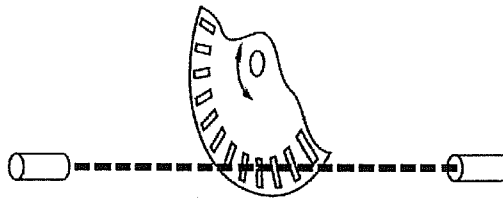

Figure Q6-b
- b) Figure Q6-b illustrates a cutaway view of an encoder.